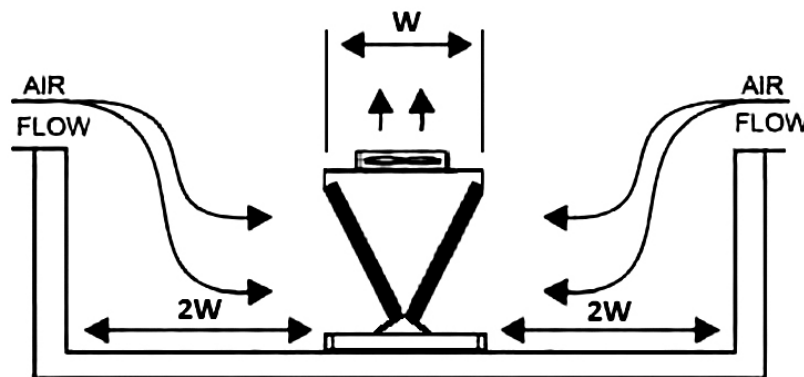

Figure 2. Equipment Installed in a Pit
- ▶ Equipment **installed in a pit** (surrounded on all four sides by walls, structures, etc. – see Figure 2):